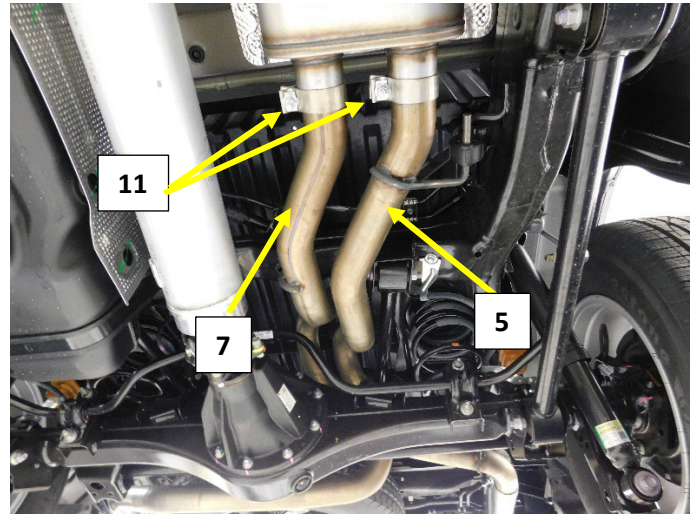

Figure.8
7. Install a supplied 2.5" band clamp (11) on each muffler outlet. Fig.8
8. Install the Left Muffler Outlet Pipe (5) into the mufflers left (drivers side) outlet. Install the rubber isolator on to the hanger rod and frame hanger. Rotate the outlet pipe to a $\frac{1}{2}$ to $\frac{3}{4}$ " clearance on the upper 4 link bar. Tighten the clamp just enough to prevent movement. Fig.8/9
9. Install the Right Muffler Outlet Pipe (7) into the mufflers right (passenger side) outlet. Rotate the pipe up and install the rubber isolator on to the hanger rod and frame hanger. Adjust the clearance between the two pipes to $\frac{1}{2}$ " just after the bend up into the chassis. Tighten the clamp just enough to prevent movement. Fig.8/10